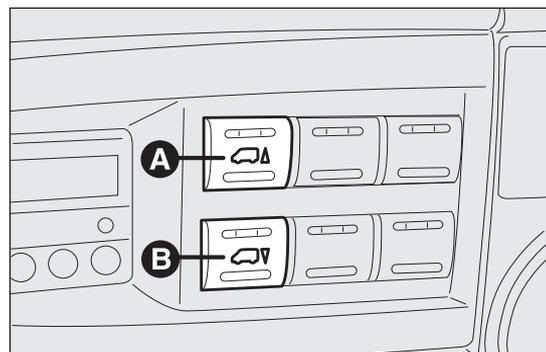

fig. 170
- for versions equipped with self-levelling air suspension, before raising the vehicle with the jack, press buttons A and B fig. 170 simultaneously for at least 5 seconds. The operating mode for raising the vehicle is activated: the LEDs on the buttons come on constantly. To exit this mode, press buttons A and B simultaneously for another 5 seconds; both LEDs on the buttons will go out and full system operation will be restored. This mode deactivates automatically when the speed of approx. 5 km/h is exceeded.